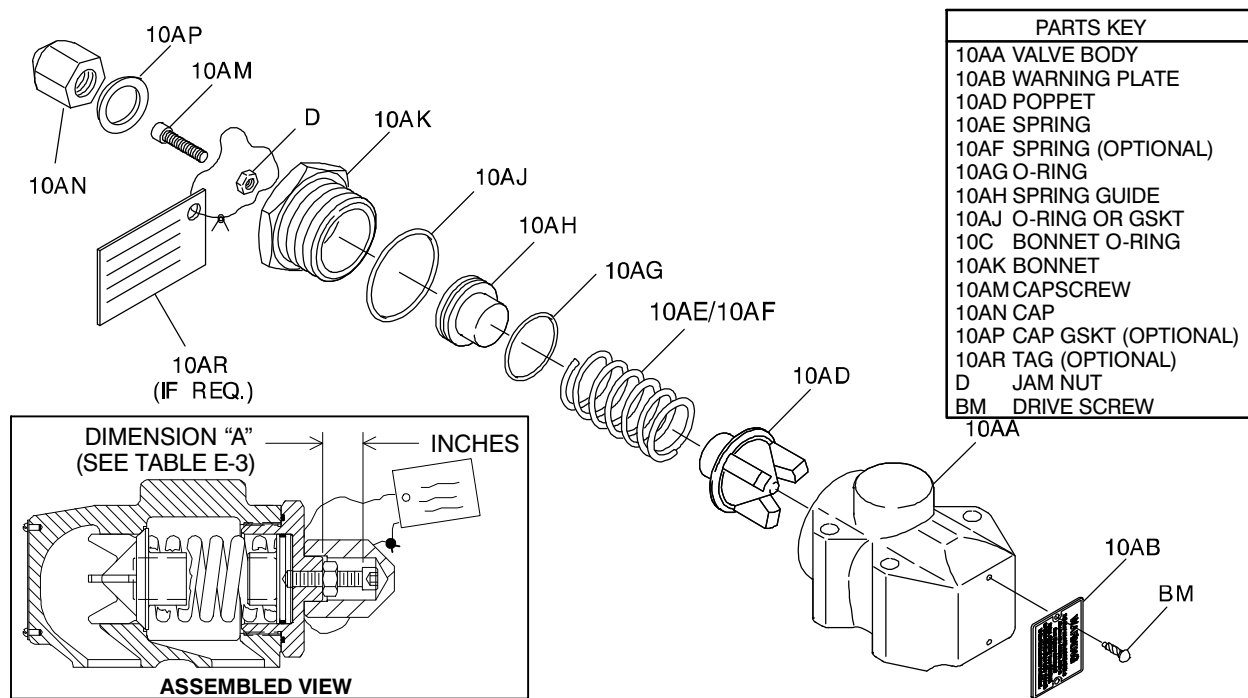

Figure E-7. Pressure Relief Valve Assembly
(Figure E-7)
Install the jam nut (D) on the adjustment capscrew (10AM) and thread the capscrew into the bonnet until the desired height ("A", Figure E-7) is reached. Refer to the separate Parts List accompanying your pump and determine the hydraulic size (D,G,J,N, etc.) and spring option code (STD, 25D, etc.) for your pump. See Table E-3 or E-4 and adjust the capscrew (10AM) to the proper "A" dimension for the desired cracking pressure.